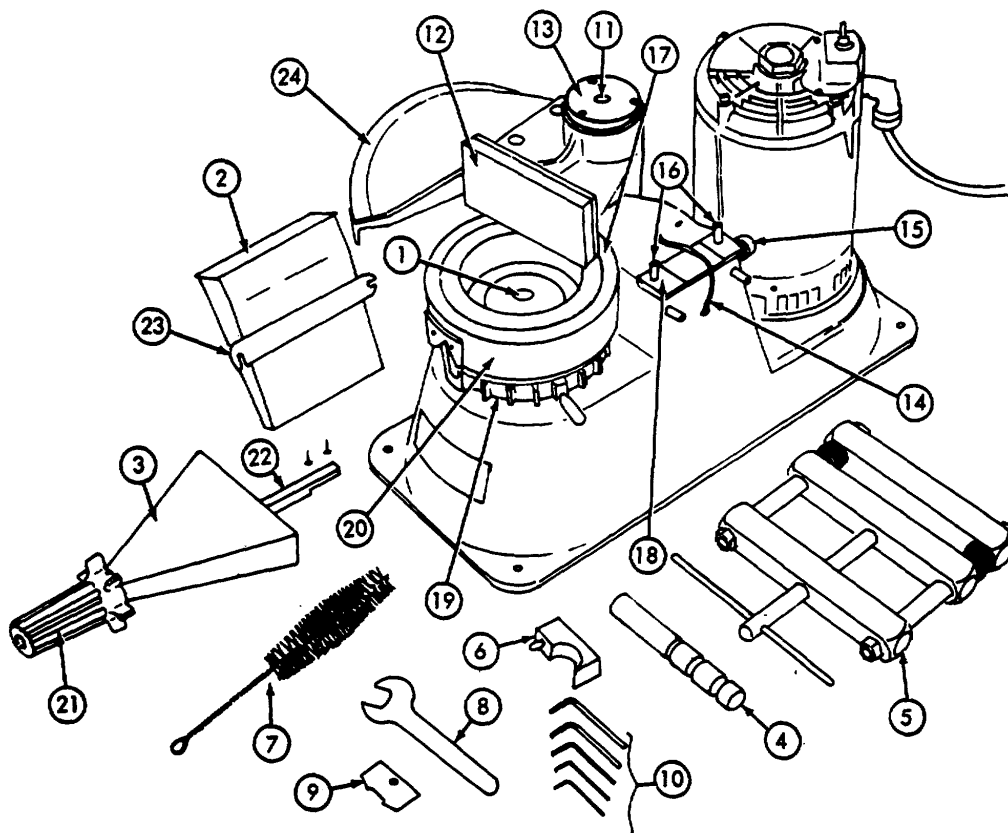
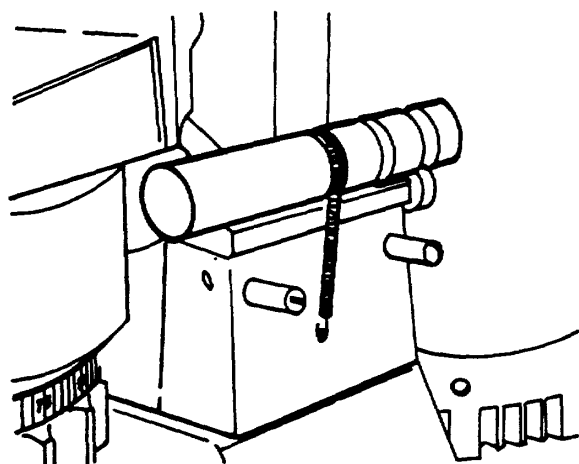
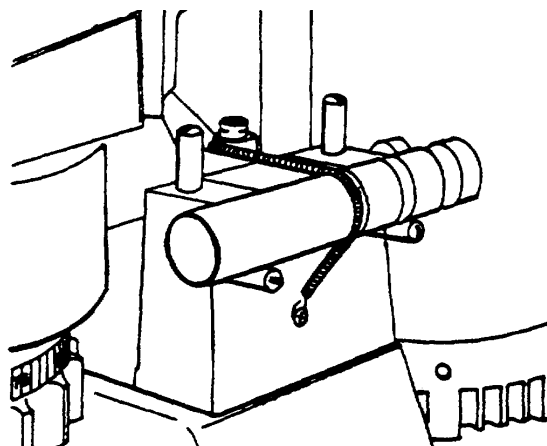
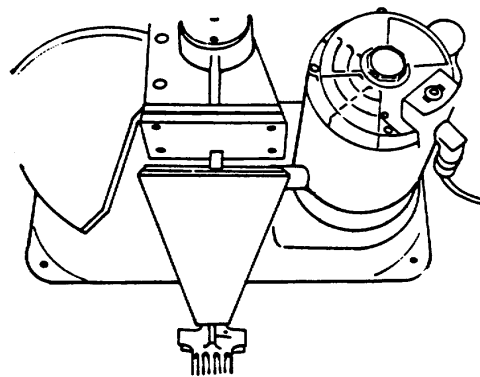

Figure 144. LOCATION OF COMPONENTS AND TOOLS
Figure 145. Gage Rod in Setup Position
Figure 146. Gage Rod in Retracted Position
Figure 147. Clamp Table in Setup Position
- a. **INSTALLING CLAMP ASSEMBLY (3, Fig 144)**
- (1) Remove Wheel Cover (24).
- (2) Loosen Pivot Post Screw (11) approximately 4 turns (do not remove).
- (3) Rotate Clamp Table (12) clockwise until it almost touches the motor. It will be necessary to raise the table slightly to clear the grinding stop.
- (4) Position Clamp Shaft (22) into Notch under face of Camp Table. Countersink side of the screw holes in Clamp Shaft must extend downward.
- (5) Insert the two screws and tighten firmly, alternately tightening one and then the other.
- (6) Rotate Clamp Table, with Clamp Shaft assembled, back to the normal position. Replace Wheel Cover and retighten Pivot Post Screw.
- b. **ATTACHING GRIT COLLECTOR (2, Fig 144) left side of machine:**
- (1) With front end of Hanger Bar (23) slightly elevated, slide horizontal slot of Hanger Bar between head of rear spring-loaded detent button and housing.
- (2) When horizontal slot is fully engaged, snap vertical slot of Hanger Bar down between head of the forward spring-loaded detent button and housings.
- c. **INSTALLING GAGE ROD (4, Fig 144)**
- (1) Stretch Retainer Spring enough to slip the Gage Rod under it. Position Gage Rod shown in fig 144. Large groove should be over Location Button (15, fig 144) with spring in small groove in Center of Gage Rod.
- (2) Spring should retain Rod against Upper Positioning Pins (16) and hardened pads of Support Block (fig 145). Gap Rod must be free to move completely off hardened pads to rest against lower positioning pins (fig 146) without removing spring from control groove.
- a. Adjust diamond dresser to tip extends from Dressing Block (6, fig. 144) about 1/12 inch.
- b. With motor off, turn Feed Wheel (19) until face of grinding wheel is about 1/16 inch above top edge of Wheel Guard (20).
- e. Move Gap Rod to retracted position on lower positioning pins (fig. 146) and swing clamp table to setup position (fig. 147).
- Clean Gage Rod and hardened pads of Support Block (18, Fig 144).
- Place Clamp Table in setup position (Fig 147).
- Clamp tightly by turning Clamp Handle (21, Fig. 144) clockwise.
- (1) With Clamp Table in setup position (Fig. 147), plate cap on Gage Rod with groove face of caps toward the wheel, and with the tongue resting in one of the grooves Gage Rod.
- (2) Clamp firmly.
- (3) Slide Gage Rod from under part and into retracted position.
- (4) Proceed to grind as outlined in steps (5) through (10) in a. above. Grind only the first face. Do not permit the second face (side with tongue) to contact the grinding wheel - note that total amount of stock is removed from one parting face of cap and other part face of rod.
- (5) Repeat above process with the con-rod.
- (1) With Clamp Table in setup position (Fig. 147) place cap on side of Clamp Shaft and con-rod on other side, so parting faces of each are resting on Gap Rod.
- (2) Clamp firmly and proceed as outlined in steps (5) through (10) on page 2-3.
- a. Loosen Pivot Post Screw (11, Fig. 144) approximately four turns (do not remove). Rotate Clamp Table (12) clockwise until Wheel Cover (24) almost touches the motor. It will be necessary to raise the table slightly to clear the grinding step.
- b. Lower grinding wheel by turning Feed Wheel (19) clockwise as far as possible.
- c. Insert Spindle Wrench (8) between grinding wheel and top of Feed Wheel and engage flats on spindle collar.
- d. To remove threaded Wheel Flange (1), grasp edge of grinding wheel, or use Wheel Flange Wrench (9) and rotate counterclockwise.